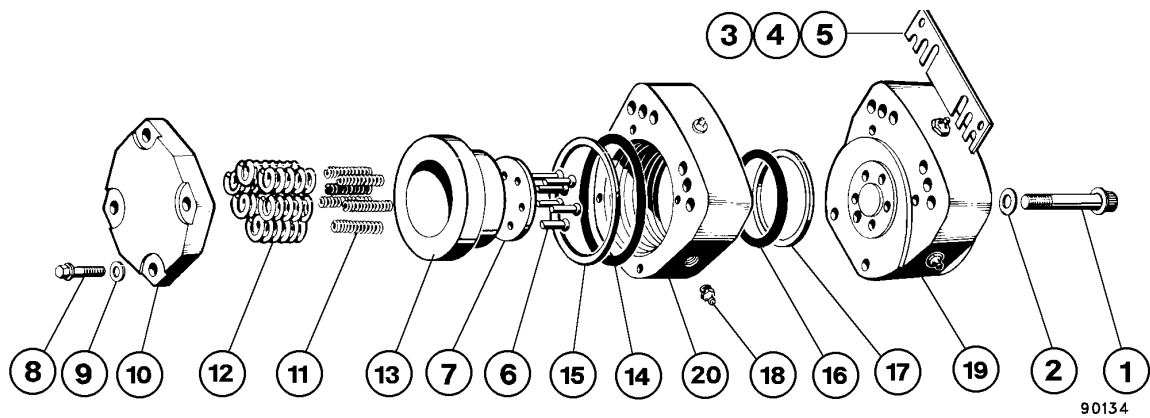

FIGURE 7-4. DISC PARKING BRAKE ASSEMBLY
1. Thoroughly clean housings (19 & 20, Figure 7-4), caps (10) and piston (13). Lightly coat pistons (13) and housing (19 & 20) with clean hydraulic oil.
4. Install piston and lining assemblies (13 & 7, Figure 7-4) into housings (19 & 20), being careful not to damage packings. Make sure thread holes are free of lubricant, clean and dry.